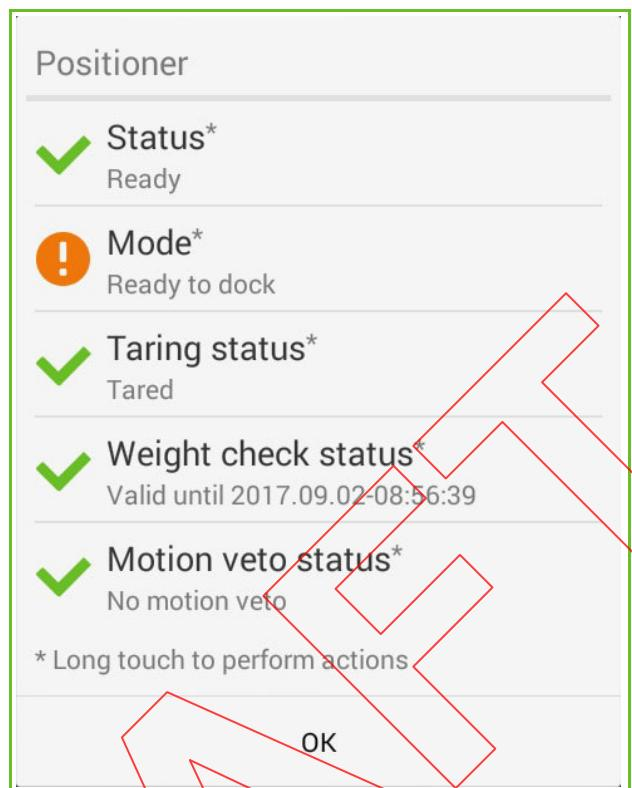

Figure 13-6. Positioner Menu
3. Long touch the PPS icon on the WIRELESS HAND-PENDANT GUI SCREEN (see Figure 8-2). The POSITIONER MENU appears (see Figure 13-6).
7. Long touch the PPS icon on the WIRELESS HAND-PENDANT GUI SCREEN (see Figure 8-2). The POSITIONER MENU appears (see Figure 13-6).
2. Long touch the PPS icon on the WIRELESS HAND-PENDANT GUI SCREEN (see Figure 8-2). The POSITIONER MENU appears (see Figure 13-6).
8. Long touch the PPS icon on the WIRELESS HAND-PENDANT GUI SCREEN (see Figure 8-2). The POSITIONER MENU appears (see Figure 13-6).